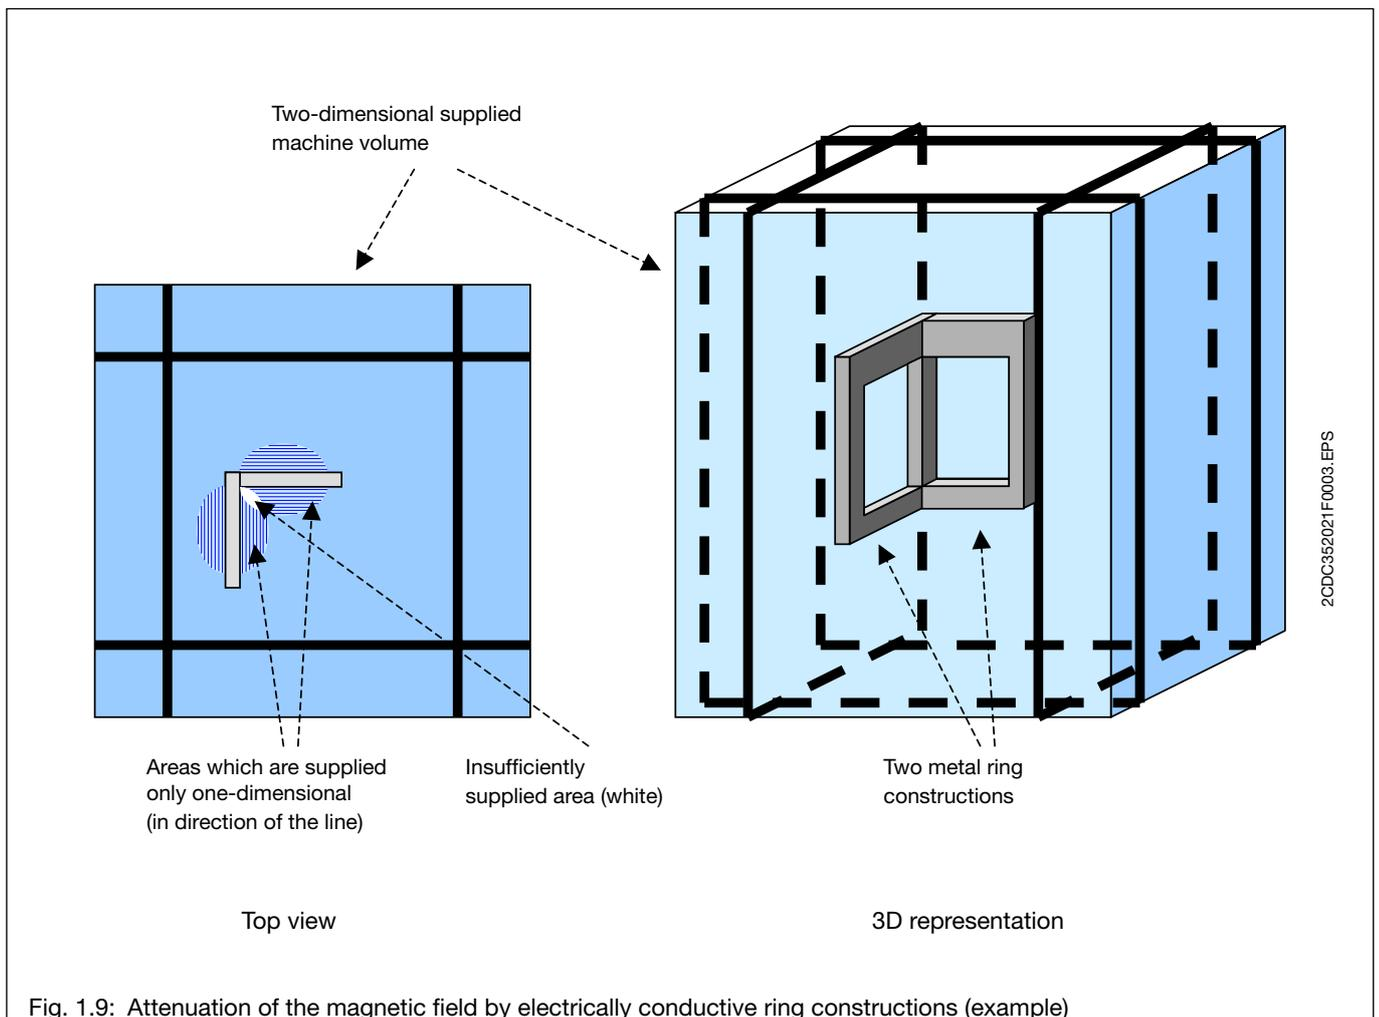

Fig. 1.9: Attenuation of the magnetic field by electrically conductive ring constructions (example)
- Inside of ring constructions (see figure) with continuous electric connections the electromagnetic field induces currents which can attenuate the energy field of the primary loops. In order to avoid an attenuation of the electromagnetic field, the electric conductivity of those ring constructions has to be interrupted, e.g. by inserting an isolating plastic part, unless the distance to the loops or potential sensor positions is large enough (see b and fig. 1.9)
- If any of the ring constructions mentioned above cannot be electrically interrupted by inserting insulating plastic parts, one dimension of the electromagnetic field will be attenuated as shown in fig. 1.9. If wireless devices shall be used in this area, the second dimension of the electromagnetic field around the place of installation must not be shielded or attenuated in any other way.